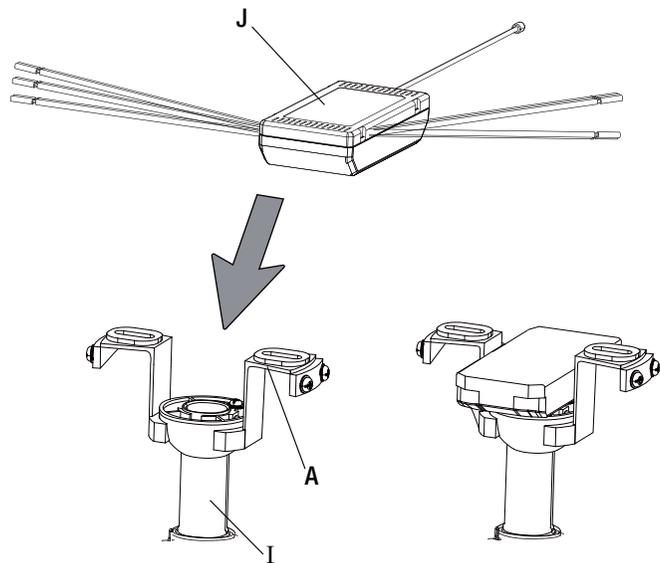

Figure 9
- Position the house supply wires to one side of the mounting bracket (A); position the fan wires to the opposite side.
- Insert the narrow end of the receiver (J) (Figure 9, flat side towards the ceiling) into the mounting bracket (A) until it rests on top of the ball/downrod assembly (I).